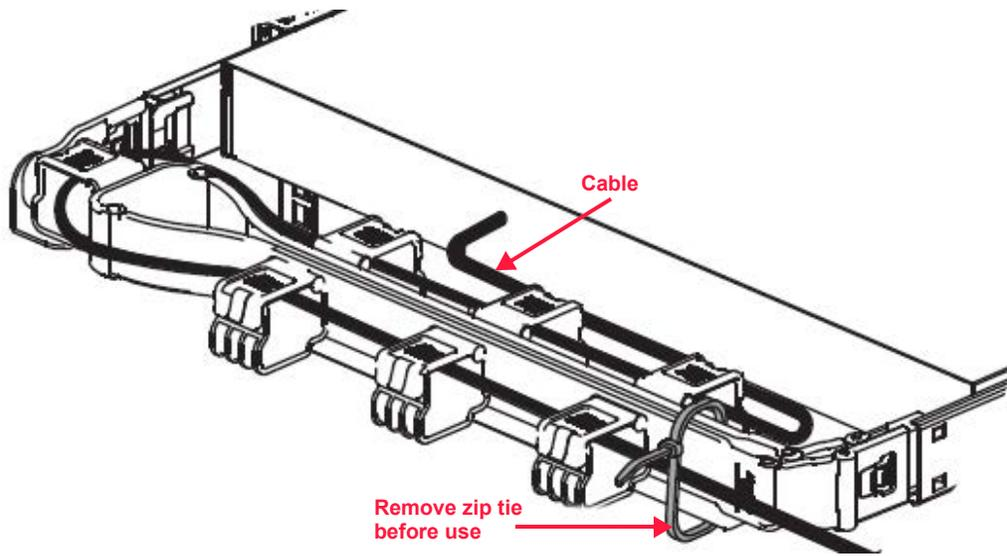

Figure 4.21 Assembled CMA
CAUTION: If the CMA ships preinstalled, a zip tie strap will secure the CMA to the cross bar during transportation to prevent damaging the CMA. This strap must be removed prior to initial use. See Figure 4.21 on page 47.
3. Slide the CMA body connector (E) onto the body rail connector (F) until the connector release button clicks.
4. Slide the inner CMA arm connector (A) onto the inner rail connector (B) until the connector release button clicks.
5. Slide the outer CMA arm connector (C) onto the outer rail connector (D) until the connector release button clicks.
7. Starting with the thickest gauge cable first, run each cable through the loops on the CMA as demonstrated in Figure 4.21.